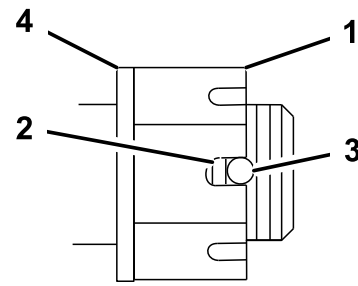

Figure 51
4. Torque the slotted nut to 125 ft-lb (170 N-m) (Figure 51).
5. Check the distance from bottom of slot in nut to inside edge of hole. Two threads or less should be showing (Figure 51).
7. Torque the slotted nut to 125 ft-lb. (170 N-m) (Figure 51).
8. Tighten the nut until the next set of slots line up with the hole in the shaft (Figure 51).